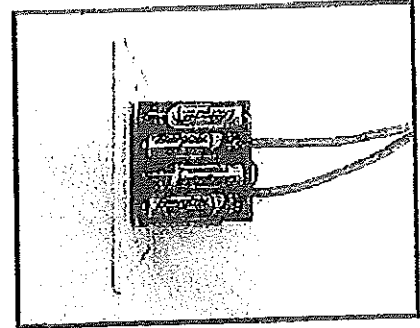

Figure 29: Wall switch - battery side.
- Insert the 4 supplied "AA" batteries into the battery pack of the wall switch (Figure 29).